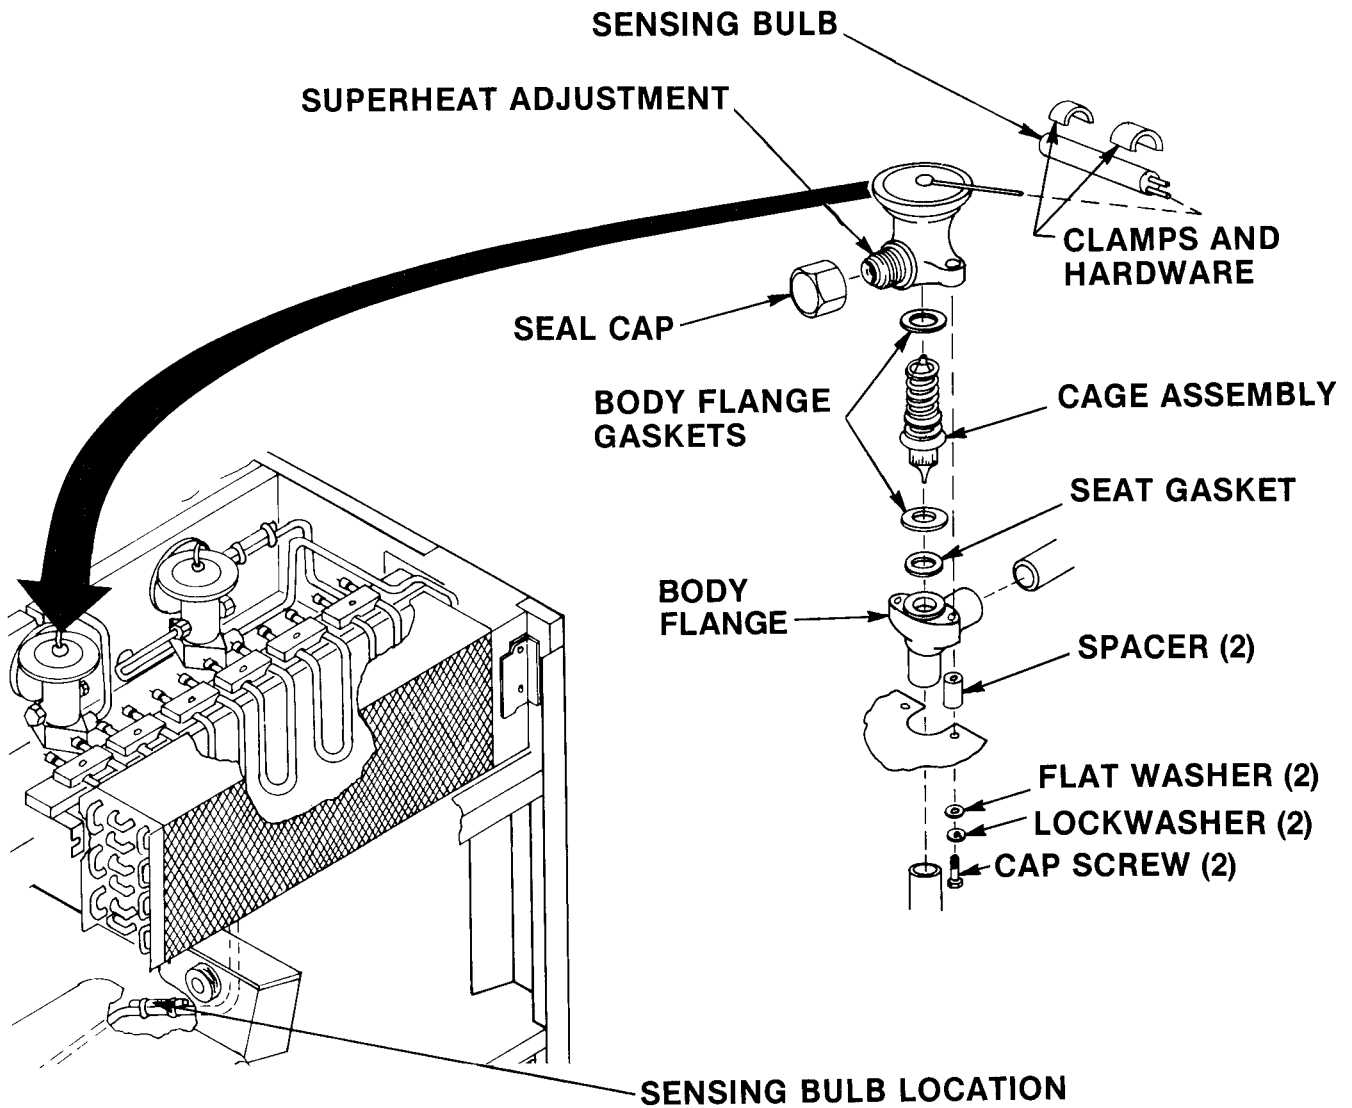

Figure 5-22. Expansion Valve
- (1) If valve body flange was removed, purge the system with nitrogen and braze the two tubing joints. (See paras 5-7 and 5-8.)
- (2) See figure 5-22 for valve component arrangement.
- (3) Place cap screws, lockwashers, flat washers, and spacers through bracket and valve body flange.
- (4) Be sure that valve components are properly assembled and aligned and secure power assembly to body flange.
- (5) Connect flare nut on external equalizer line to expansion valve.
(6) Insert the sensing bulb into its mounting loop clamps in its original position and tighten the screws and nuts. Be sure the sensing bulb is making good metal-to-metal contact with the suction line.
(7) Replace the insulation tubing that was removed from the sensing bulb and expansion valve connections. Secure with tape, item 11, Appendix E.
(8) Replace the dehydrator. (See para 5-13.)
(9) Leak test all newly connected joints and those in the repair area. (See para 5-9.)
(10) Install top panel. (See para 4-23.)
(11) Evacuate and charge the refrigerant system. (See paras 5-10 and 5-11.)